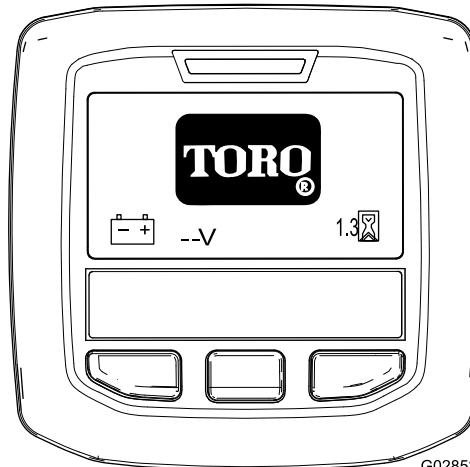

Figure 59
**Note:** The InfoCenter will illuminate and display the initialization screen (Figure 59).